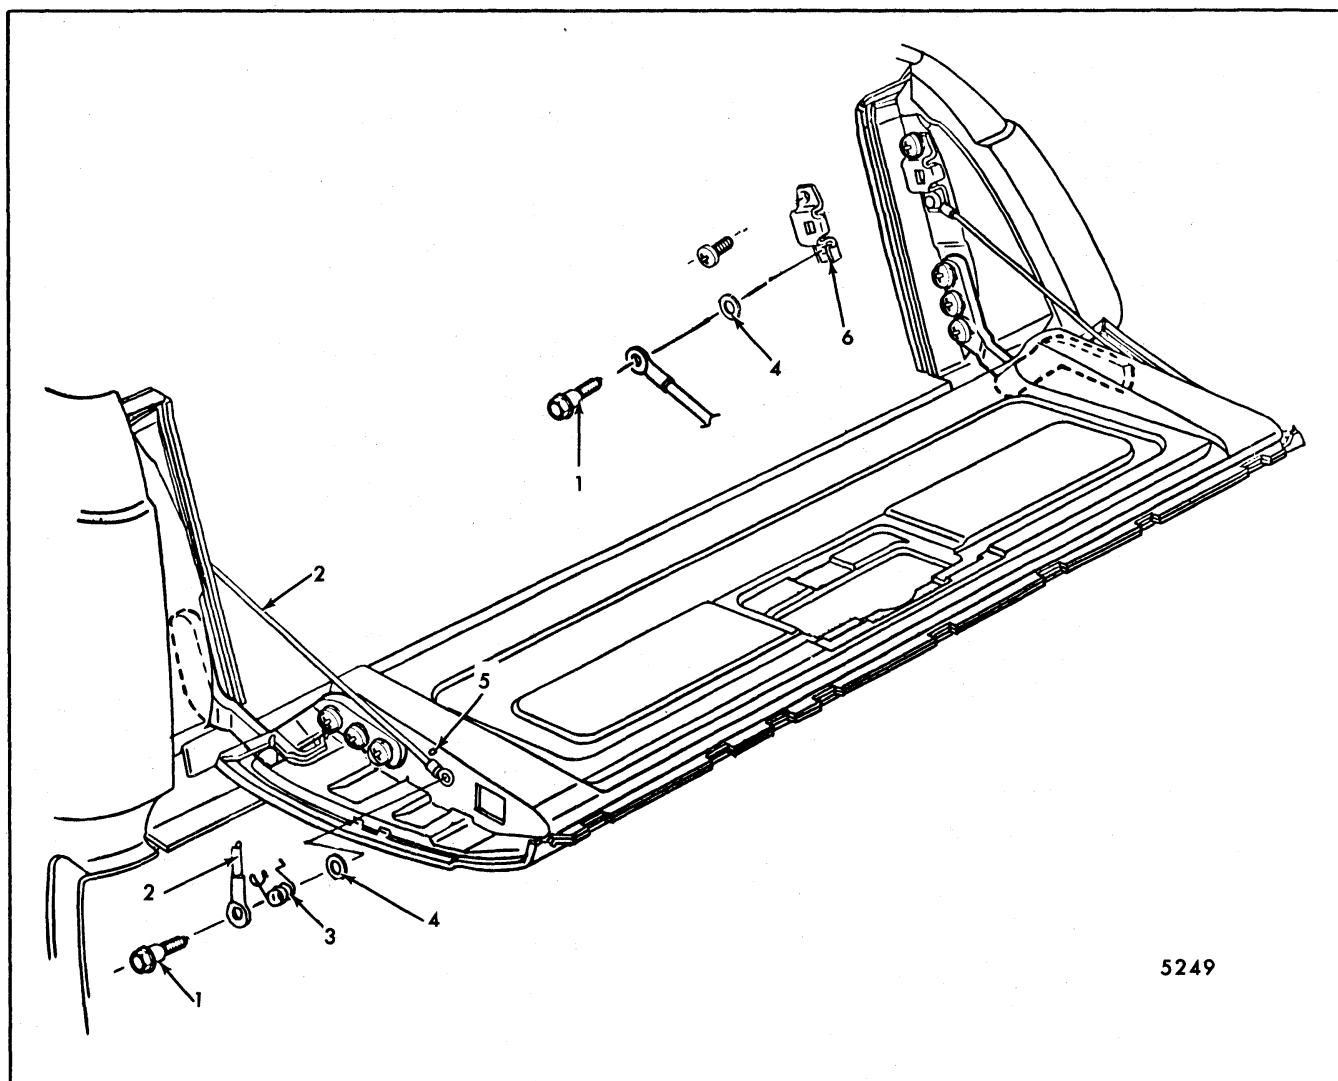

Fig. 7-106-Tailgate Support Cable Attachment
2. Disengage support cable return spring and remove cable attaching bolts on tailgate and body pillar (Fig. 7-106). Remove support cable.
2. Disengage support cable return springs and remove support cable attaching bolts on tailgate (Fig. 7-106).
2. Remove latch striker attaching screws and remove striker from body pillar (Fig. 7-106).